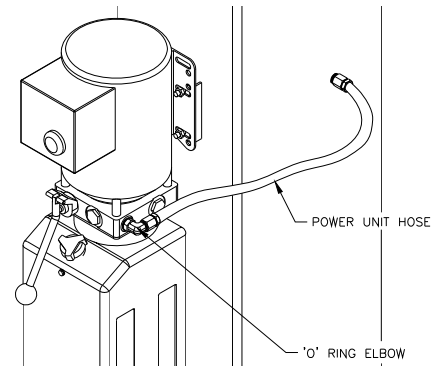

Fig 4-Power Unit Connection
- 12) Thread 9/16-18 O-ring elbow (in hardware box) into power unit. Attach free end of power unit hose to elbow. See **Fig 4**. CAUTION do not damage rubber O-ring.